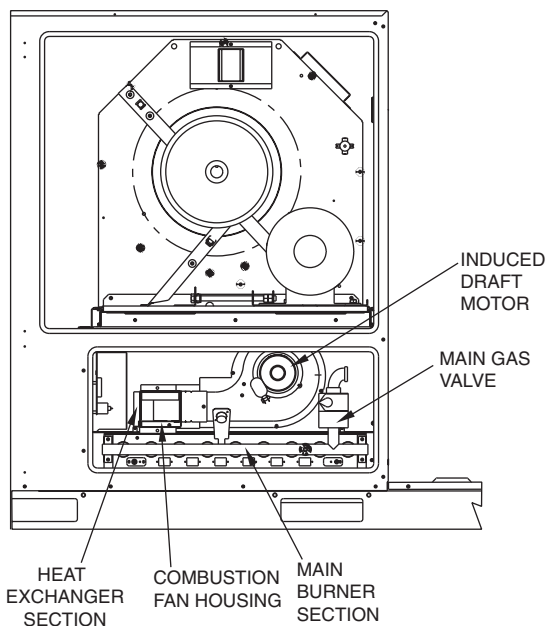

Fig. 2 — Typical Gas Heating Section
3. Set the switch on the main gas valve to the OFF position. See Fig. 2.